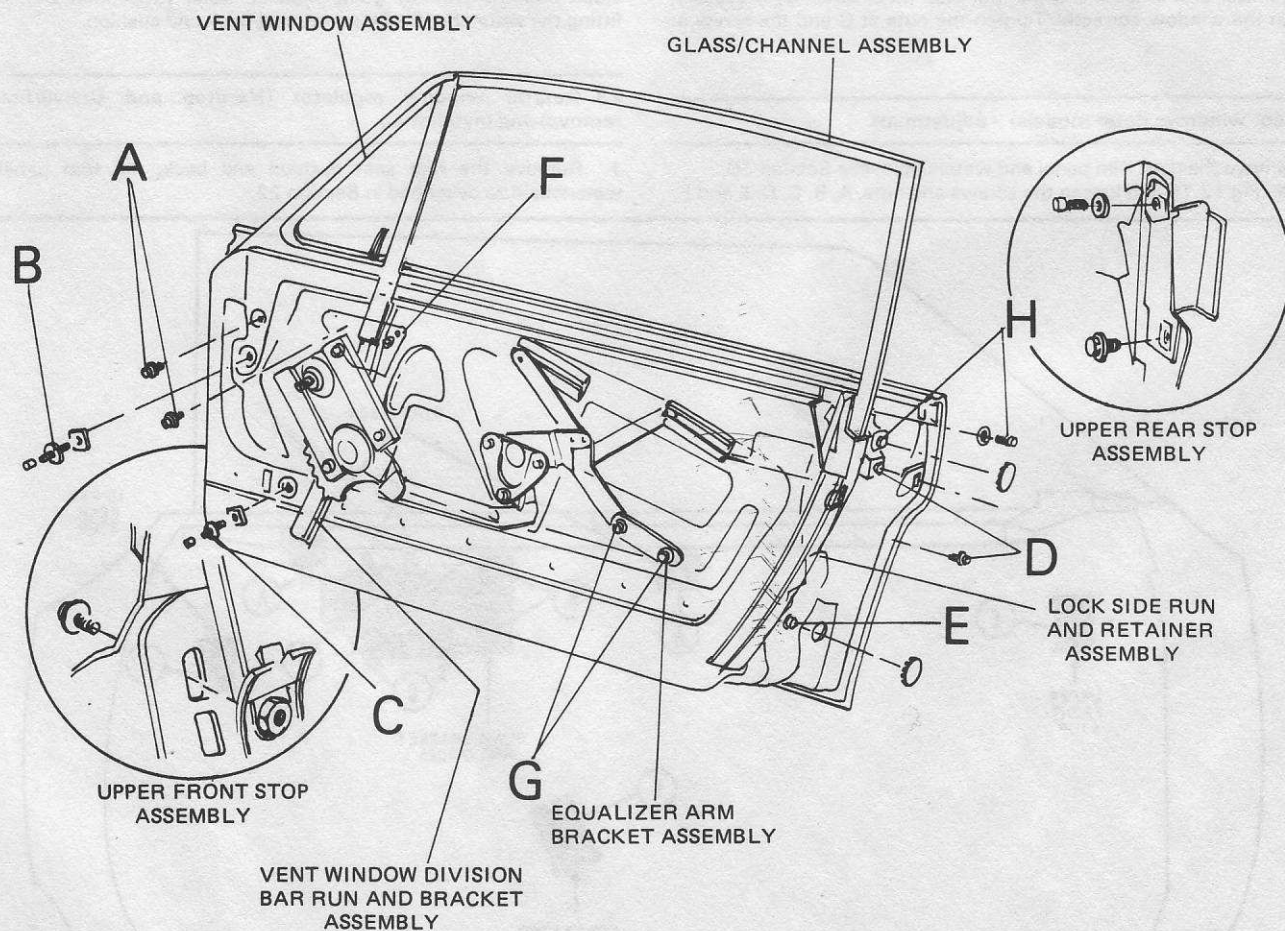

Fig. 12.14 Door window - adjustment (early models) (Sec 20)
- 2 Close the window fully and adjust the vent window assembly backwards and forwards or up-and-down at A in Fig 12.14, so that the front edge of the door vent window is parallel with the windshield side moulding. Tighten the screw at A just enough to retain the vent window in position.